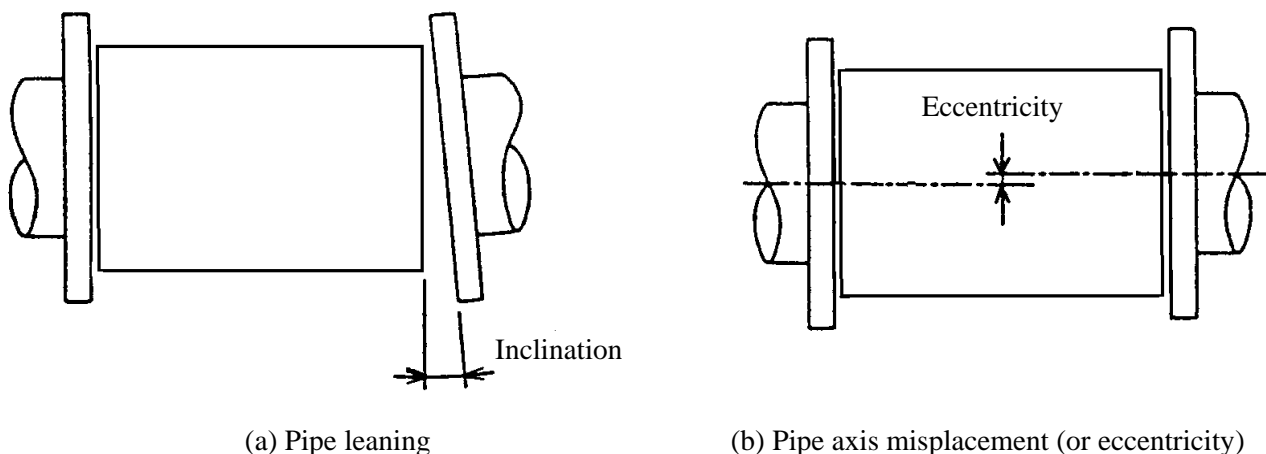

Figure 4.1 Pipe leaning and axis misplacement
(1) Before installing pipes, check for any leaning, misplacement or eccentricity as illustrated in Figure 4.1.